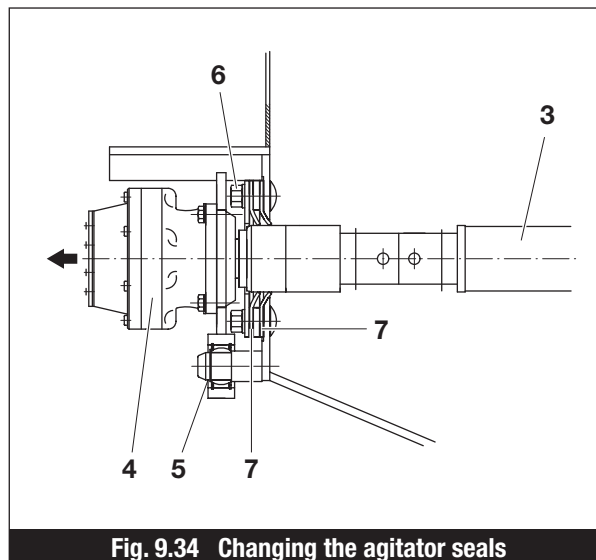

Fig. 9.34 Changing the agitator seals
1. Remove the motors (Item 4, Fig. 9.34) and put them in a safe place.
2. Knock the securing pin (8) fully inwards, remove the washer (9) and unscrew the nut (10).
3. Lever out the shaft (11) using pry bars.
4. Split the wear sleeves (12) off the shaft (11) and remove them.
6. Refit the agitators in the reverse sequence to removal. A new hole must be drilled for the securing pin (8).